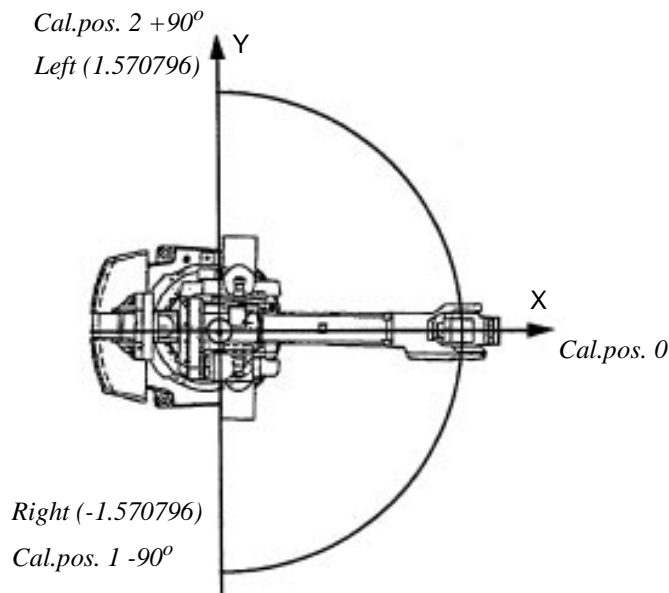

Figure 23 Calibration positions 0, 1 and 2 (Normal, Right and Left)
Run the program \SERVICE\CALIBRAT\CAL6400 on system disk IRB 2, (select the desired calibration position, Normal/Left /Right). See Figure 23. When the robot is calibrated, switch to MOTORS OFF. Check that the calibration marks for each axis are on the same level, see Figure 22. If they are not, the calibration must be repeated.
Before it can be calibrated in one of the two alternative positions, the robot must have been calibrated with calibration equipment at calibration position 0 for all axes (the robot is delivered with calibration position 0). See Figure 23.
2. Run the calibration program again and select the desired calibration position (Left or Right), see Figure 23.
- Change Cal pos to 1.570796 or -1.570796 depending on selected calibration position. The angle is in radians, see Figure 23.